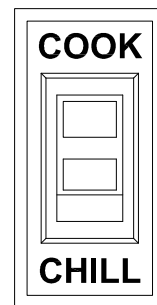

Figure 2
5. The operating switch has two positions (Figure 2). Set switch to "COOK". Steam will enter the kettle jacket and cooking will commence.